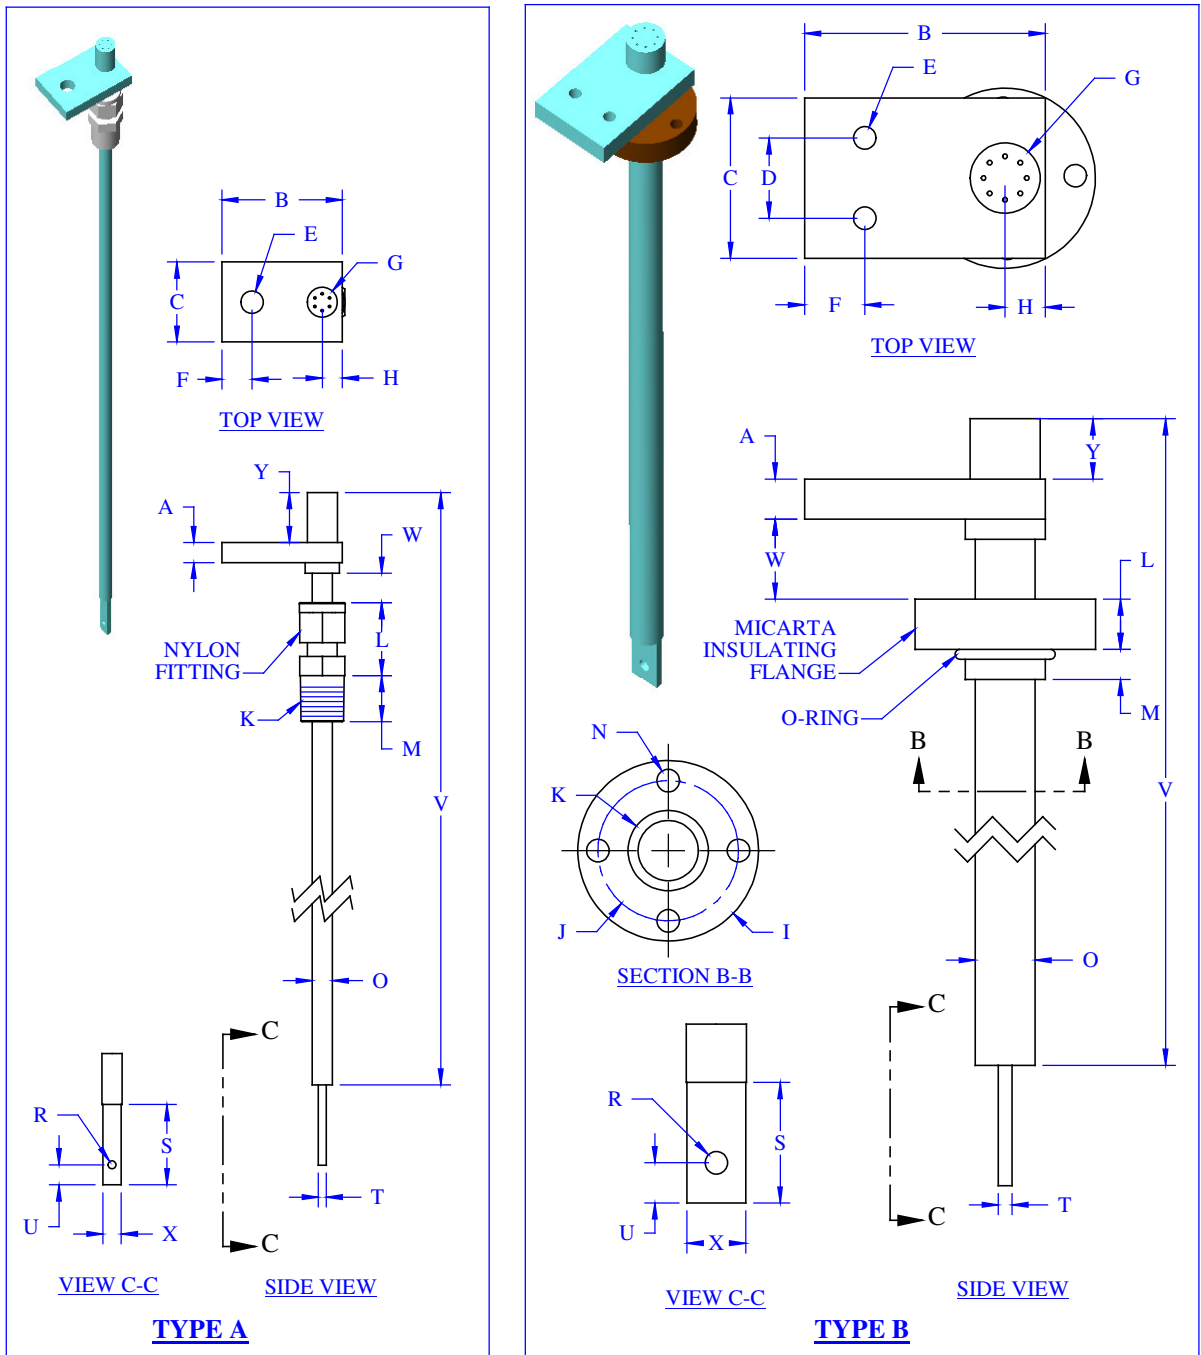

FIGURE 1
- A. Table 1 lists the specifications and shows dimensional references for AMI standard vapor cooled current leads. Dimensional references in Table 1 are shown on Figure 1. Custom designed or special order current leads may have dimensions and specifications that vary from those listed.